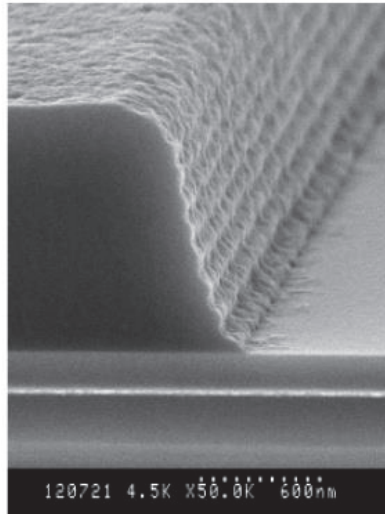

Figure 3 Common defect in photolithography process.
- (6). (a). A common defect faced in photolithography process is shown in Figure 3.